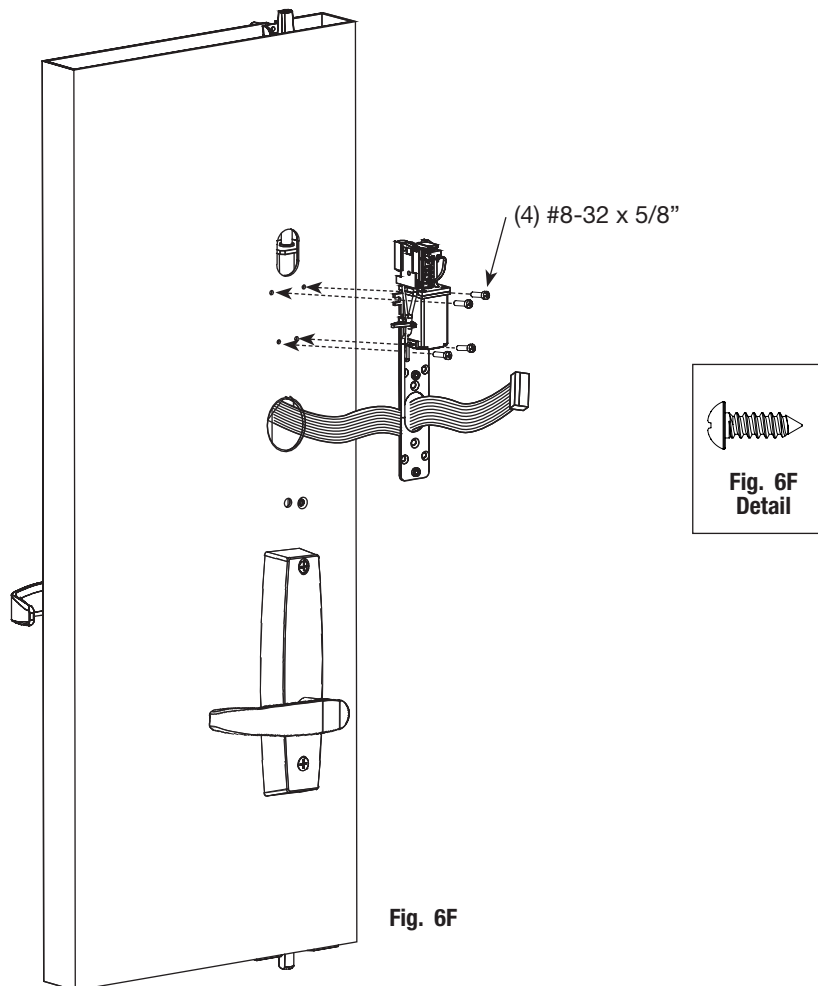

Fig. 6F
1. Install the upper left mounting screw, #8 - 32 x 5/8 Fillister for metal door or #8 x 5/8 self-drilling Fillister for wood doors (Figure 6F).